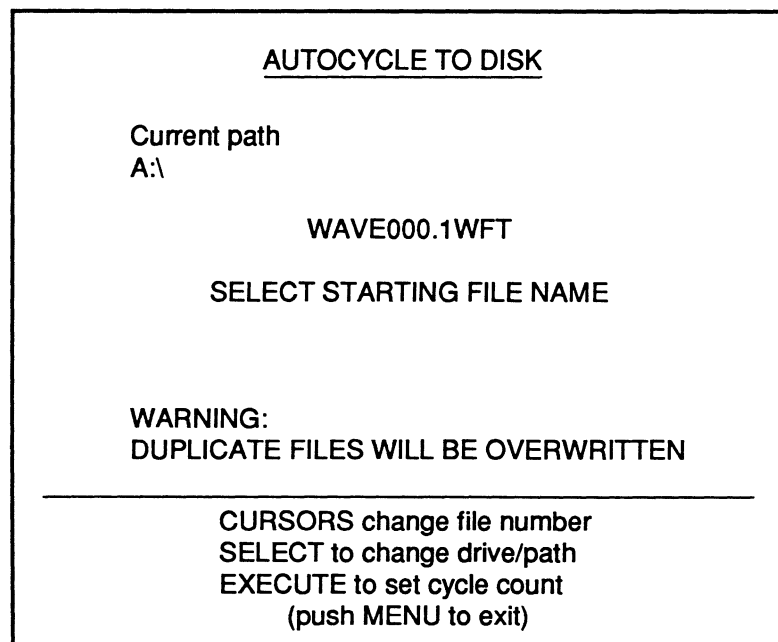

Figure 2 - Starting File Name selection screen
- Press the Select button until the screen reads "CURSORS change file number" as shown in Figure 2 and then select the desired starting file name using the Up/Down Cursor buttons.